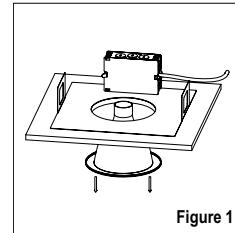

Figure 1
1. Remove existing lamp and reflector. If existing trim or can are present, remove from the ceiling or move it out of the way. Make sure to retain existing rough-in kit components. (See Fig. 1)